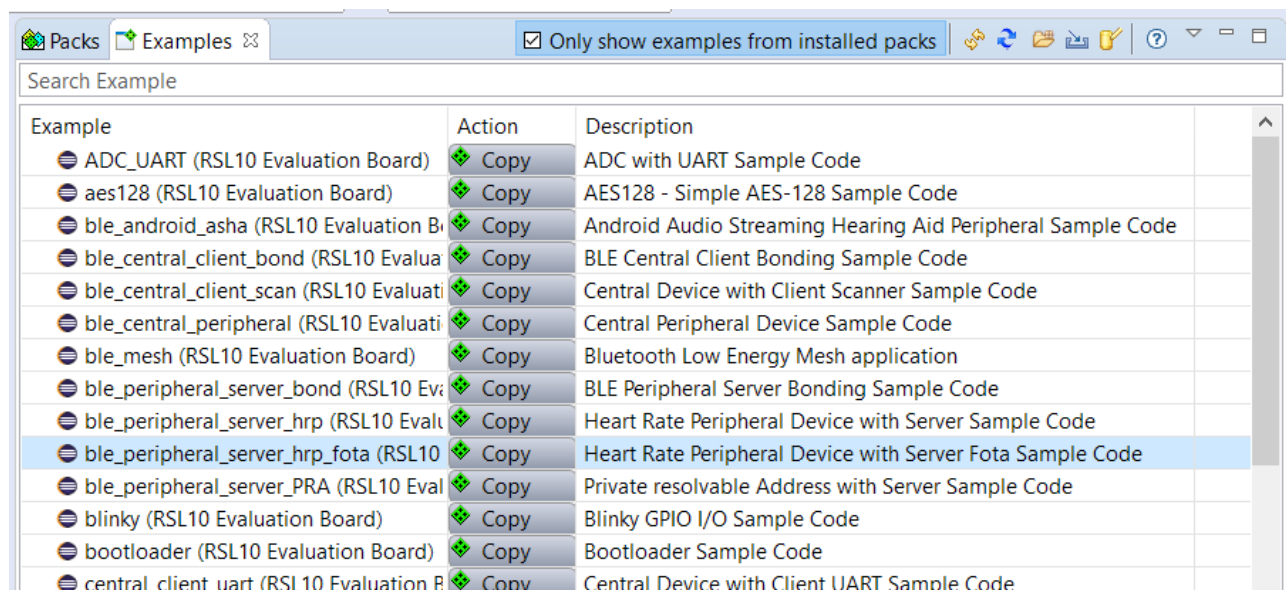

Figure 3. Importing the FOTA Sample Project
2. Find the *ble_peripheral_server_hrp_fota* example project and click the **Copy** button to import it into your workspace. (See the figure "Importing the FOTA Sample Project" (Figure 3).)